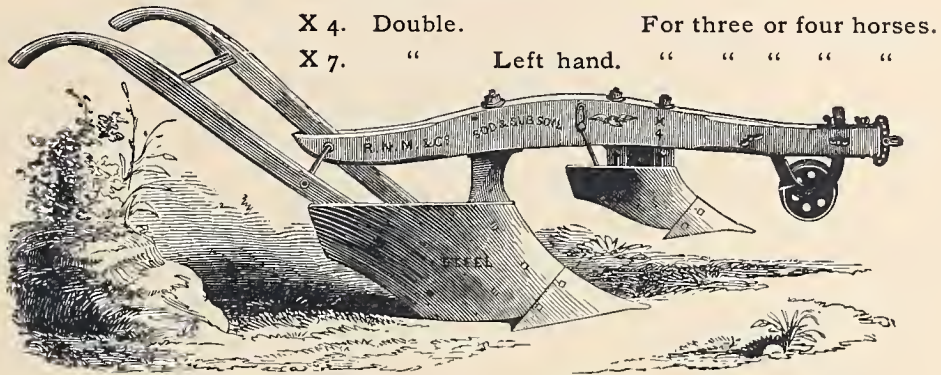

Fig. 271.—Boston Steel Clipper Double Plow, X 4.
**Boston Steel Clipper Sod and Subsoil Plow, X 4**, represented by Fig. 271, is same in its working-properties as the EAGLE 34 SOD AND SUBSOIL PLOW, a description of which will be found on page 18.